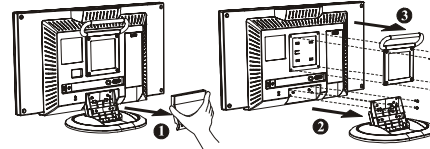
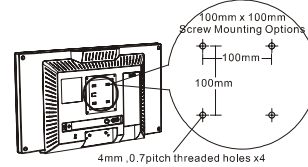

Figure 1-4
Figure 1-5
1. Remove the rear cover from neck ❶ (See Figure 1-4)
2. Unscrew screws of the hinge bracket ❷
3. Remove the stand from main body ❸
Before installing to mounting device, please refer to Fig. 1-4. The rear of this LCD display has four integrated 4 mm, 0.7 pitches threaded nuts, as well as four 5 mm access holes in the plastic covering as illustrated in Figure 1-5. These specifications meet the **VESA Flat Panel Monitor Physical Mounting Interface Standard** (paragraphs 2.1 and 2.1.3, version 1, dated 13 November 1997).